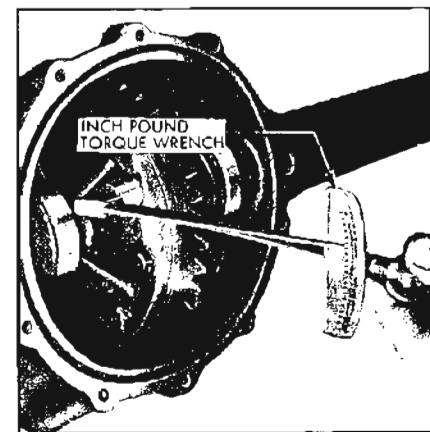

Figure 6-32—Checking Differential Case Preload
4. Rotate differential case several complete turns to seat bearings. Check bearing preload using an inch pound torque wrench connected at ring gear attaching bolt. With wrench projecting approximately straight out, bearing preload should read 30 to 40 in. lbs. with new bearings, or 20 to 30 in. lbs. with reused bearings. See Figure 6-32. If preload is not according to these specifications, increase shim thickness on each side .002" for each additional 10 in. lbs. preload desired, or decrease shim thickness .002" on each side for each 10 in. lbs. preload to be subtracted.